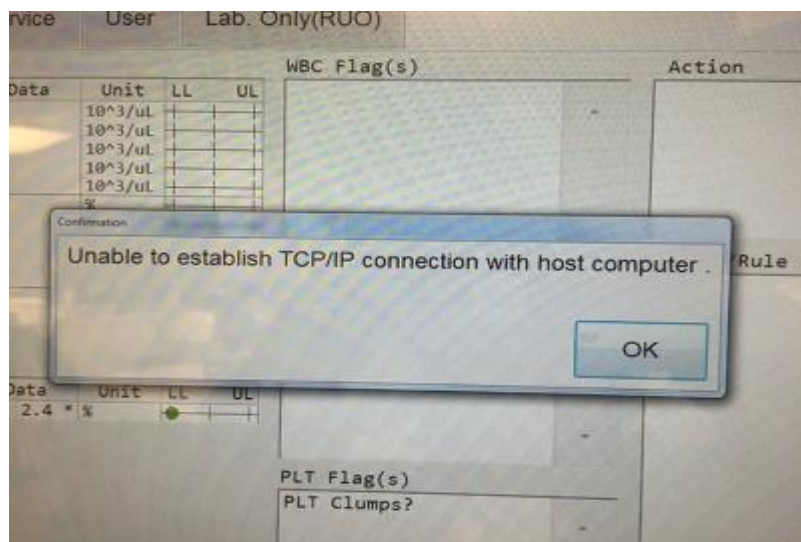

Figure 9: TCP/IP Connection Error Screen
1. You will see the following message (see Fig. 9) pop up on the XN IPU. Click **[OK]**. This will initiate the back up server to connect. Initialization will happen in the background.